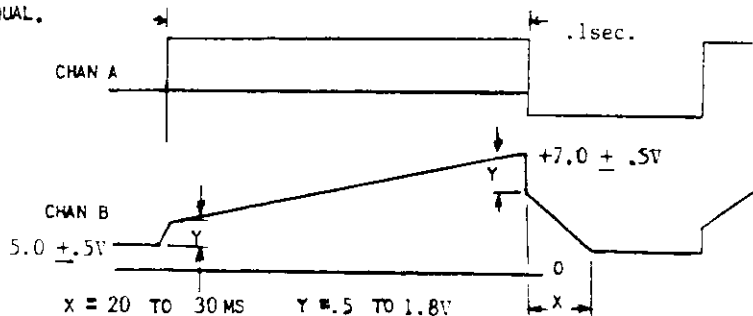

FIGURE 2
SCOPE IN CHOPPED MODE CHAN A 2V/DIV SYNCH D.C. COUPLED SCOPE ON CHAN A. SET WAVETEK FOR 4 VOLTS P.T.O P, 5 HZ CHECK WAVE SHAPE PER FIG. 2 ADJUST R50 TO OBTAIN WAVE SHAPE (CCW). RISE AND FALL RATE (X) NEARLY EQUAL.